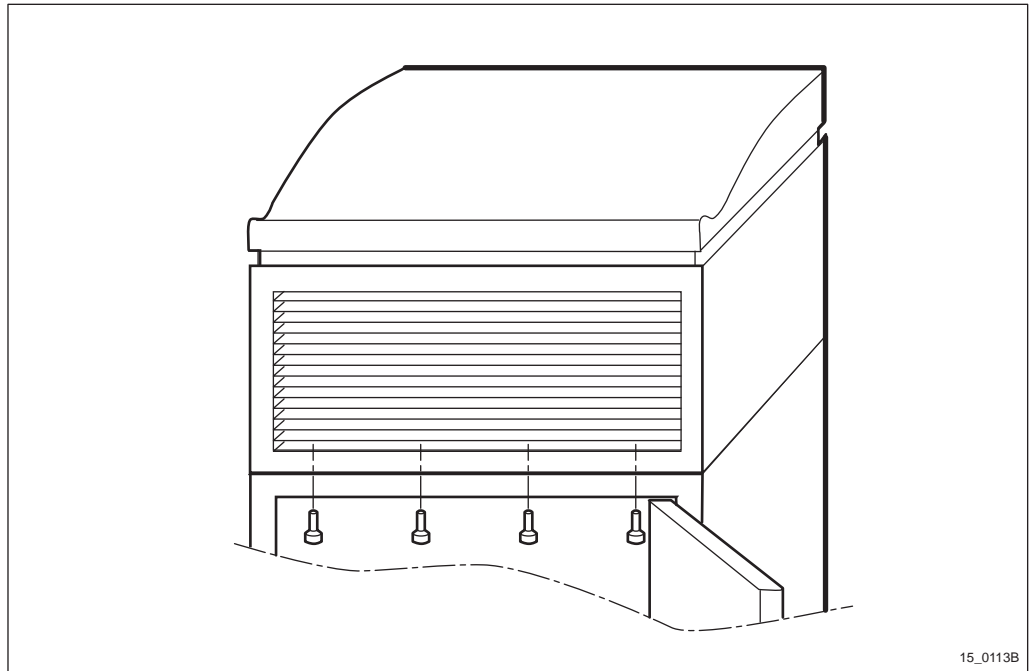

Figure 124 Removing the top cover
2. Refer to the picture below and open the door to the radio sub-cabinet and loosen the four hex screws holding the climate unit cover in place. See Figure 124 on page 216.